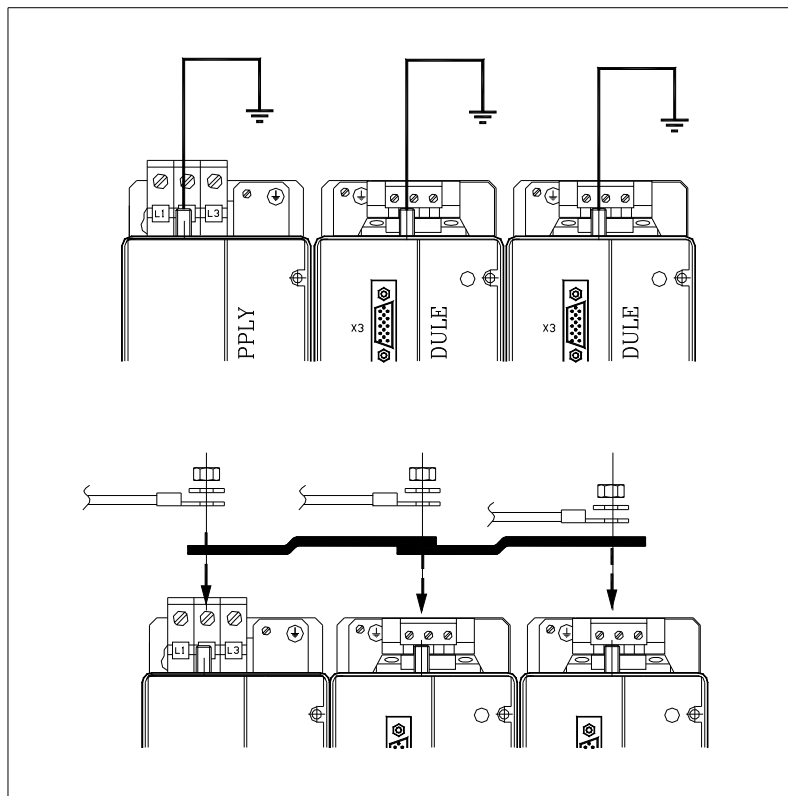

FIGURE H8.11
- Make all the ground connections indicated in **FIGURE H8.11** with a cable having a section equal to or greater than the three - phase power supply and at least 6 mm².